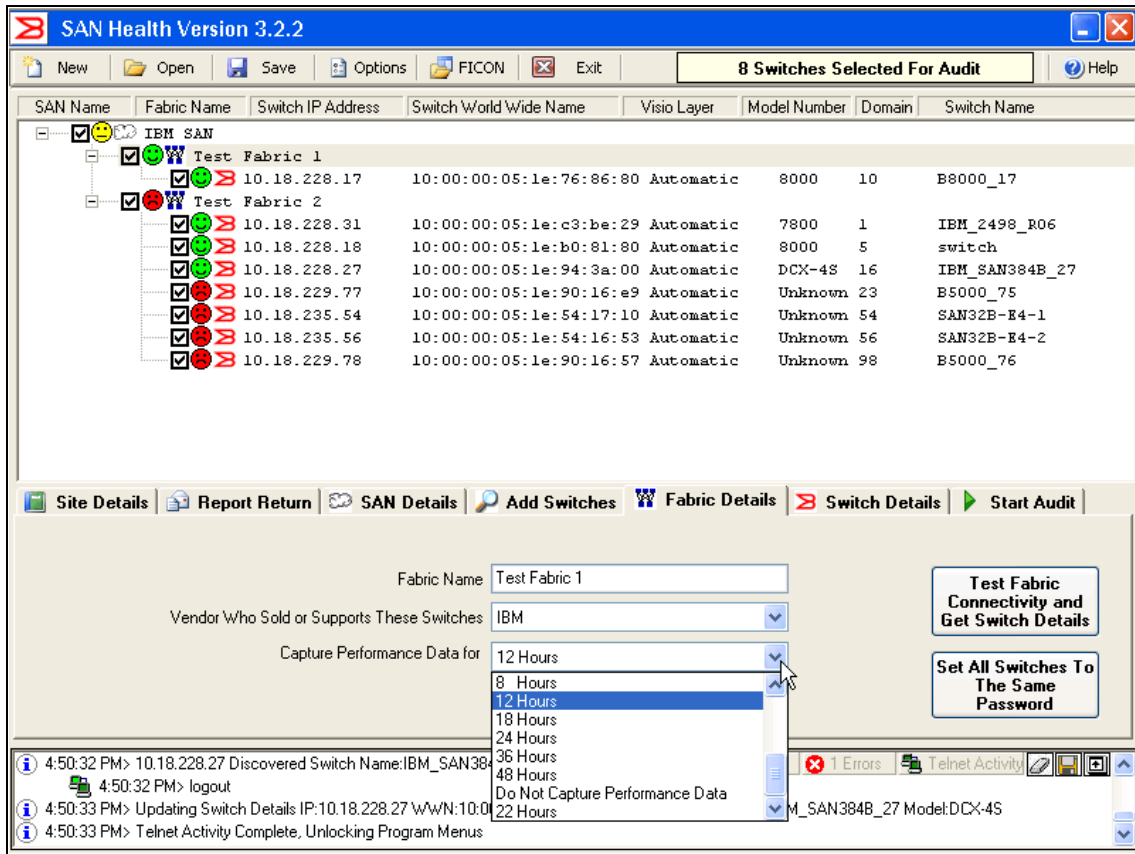

Figure 17-11 SAN Health Diagnostics Capture Fabric Details
- On the *Fabric* tab, provide details about the fabric. Then test the connectivity as shown in Figure 17-11.